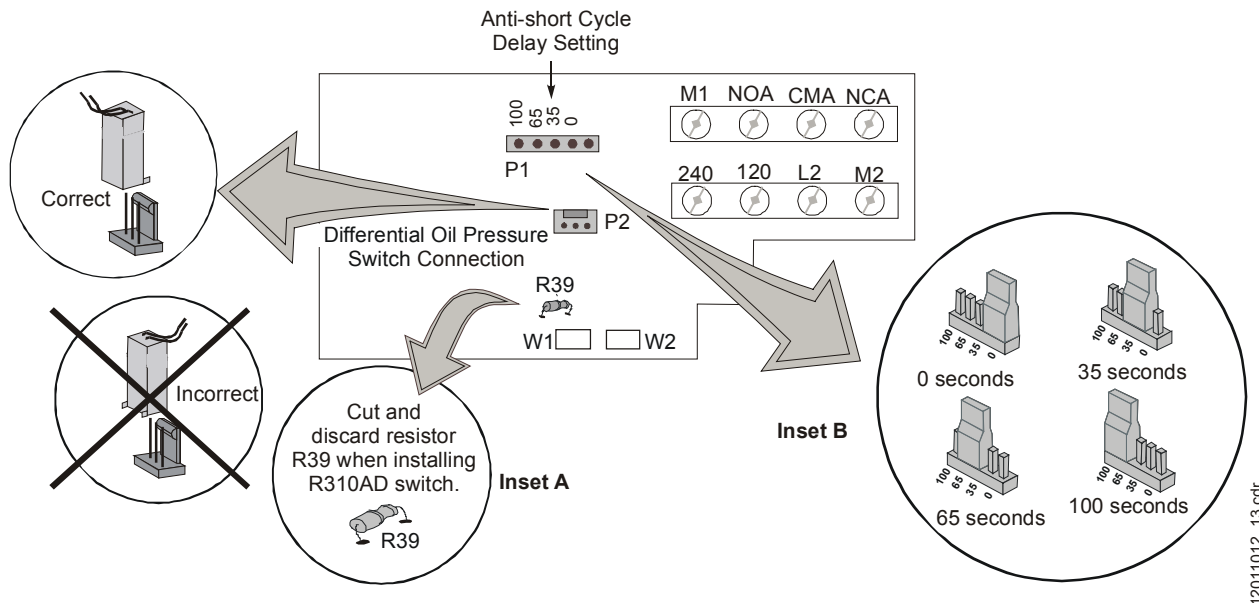

Figure 13: Terminal Designations and Jumper Positions for Anti-short Cycle Delay
Install the R310AD switch after the main contactor on one of the compressor power leads, and wire to terminals W1 and W2 on the P545 control. In addition, remove resistor R39 by cutting the leads to the circuit board. See Figure 13.
2. Connect the wiring harness to the P545 control at P2. See Figure 13 for the location and orientation of the differential oil pressure switch connection.
The anti-short cycle delay timer is factory-set to 100 seconds. For a different delay, move the jumper at P1 to the desired position. (See Figure 13, Inset B.)
Note: On systems using the R310AD switch, remove relay connections to control terminals W1 and W2, and connect a jumper between those two terminals. (See Figure 13.)
5. De-energize the supply voltage. Reconnect the compressor leads to the contactor, or reset the disconnect. If an R310AD switch is used, reconnect the compressor leads to the contactor. See Figure 13.